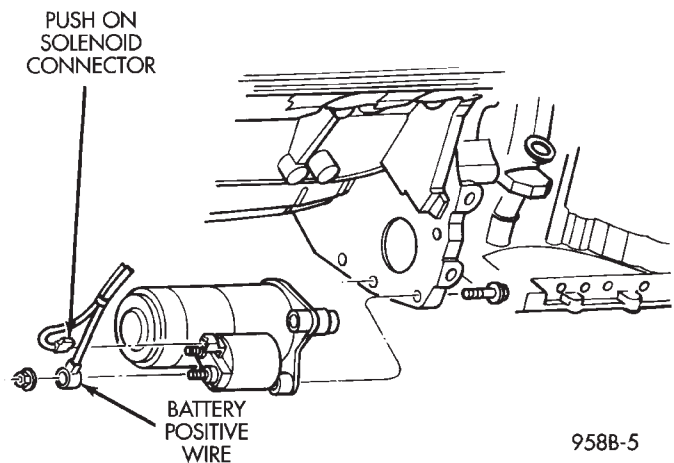

Fig. 9 Wire Terminal Connection - 2.5L Engine
- (2) Raise vehicle.
- (3) Remove oil filter.
- (4) Remove battery positive cable nut from starter and remove cable (Fig. 9).
- (5) Disconnect push on solenoid connector.
- (6) Remove three bolts attaching starter to transmission housing and remove starter from vehicle.